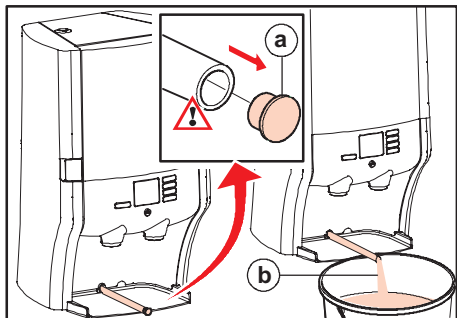

Fig. 79 Draining
9. Pull the drain hose approx. 12 inch (30 cm) out of the rear wall and put the end in the bucket (fig. 79).
10. Remove the cap from the drain hose and allow the hot water to flow into the bucket (fig. 79 a and b).
28. Remove the cap from the drain hose and allow the water to flow into the bucket (fig. 79).